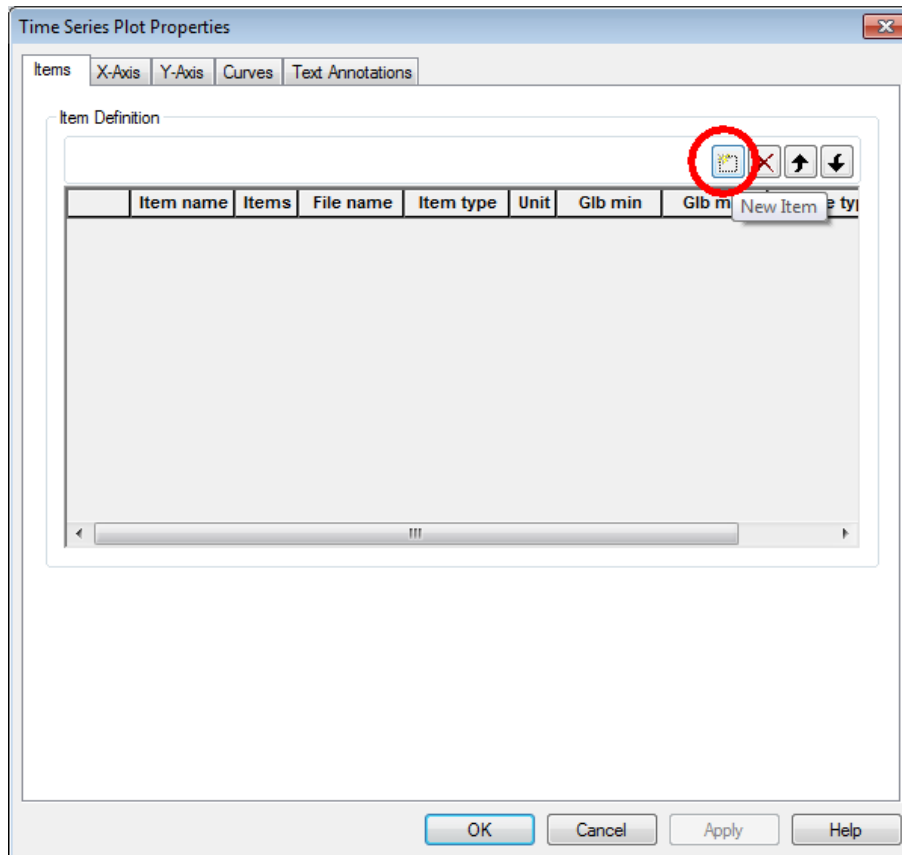

Figure 2-25 Add new time series to plc plot
- Click on 'New Item', cf. Figure 2-25.